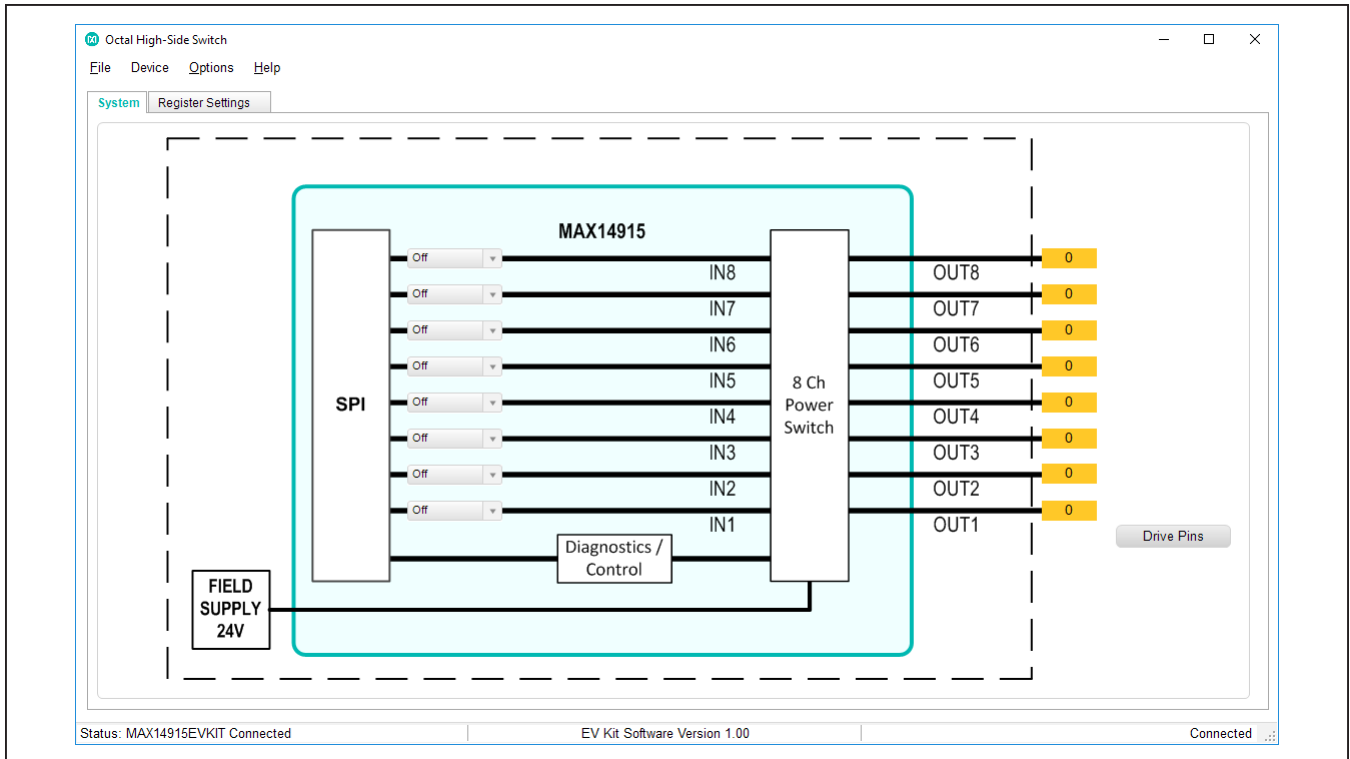

Figure 1. MAX14915 EV Kit GUI System Tab
- 6) Start the EV kit software by opening its icon in the **Start | Programs** menu. The EV kit software appears as shown in Figure 1. Verify that the lower-right status bar indicates the EV kit hardware is **Connected**.